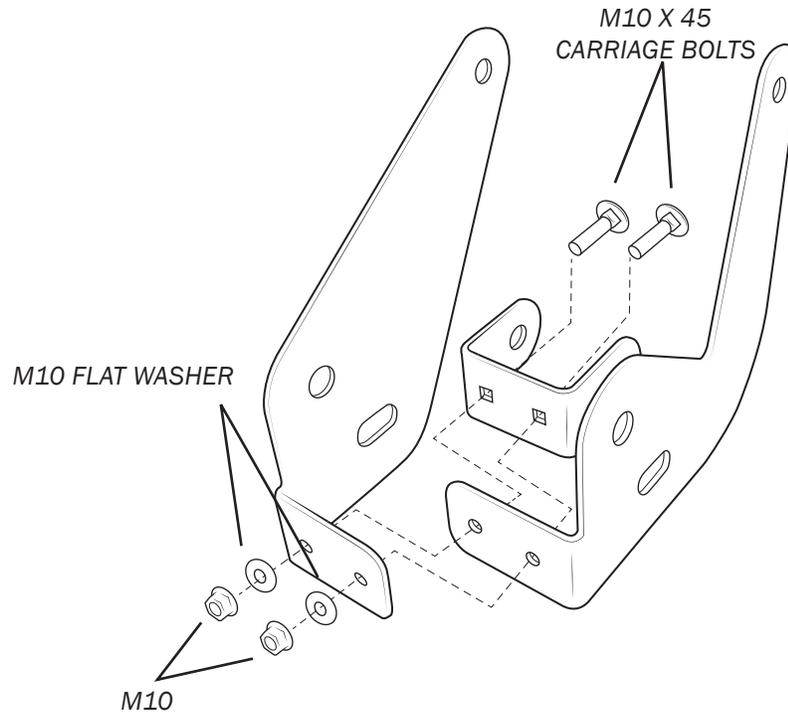

Figure 9
- a. Preassemble the AEV radius arm brackets for installation (Fig. 9).